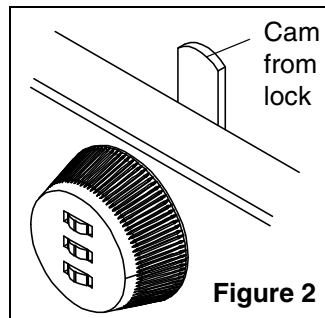

Figure 2
- Remove the existing locks from the cabinet and save cams for later use. (Figure 2)